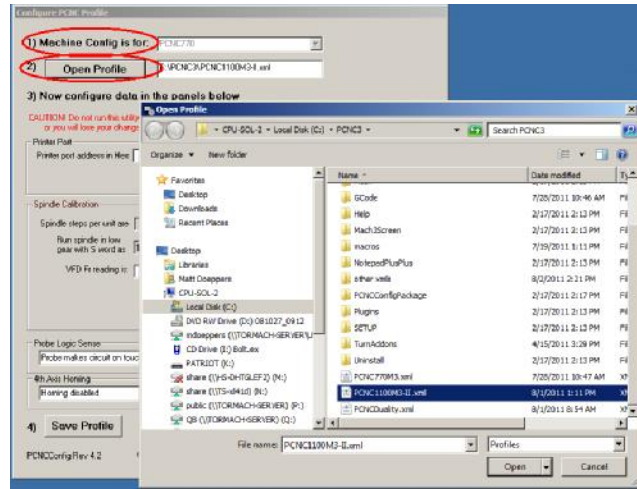

Figure 9.10 – Opening the profile
- Open the PCNCConfig software program located under “Programs” on your “Start” menu. This will have been installed when you installed the control software. Click the “Open Profile” button and choose the machine profile you wish to modify (figure 9.10). The profile for the PCNC 1100 Series II is: